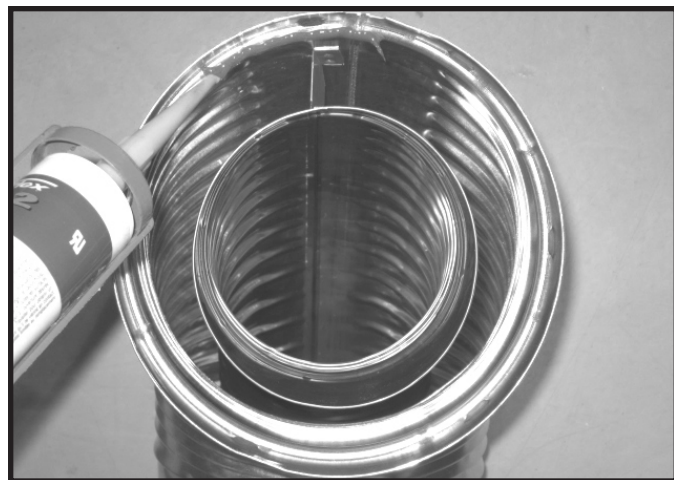

Figure 7.1 High Temperature Silicone Sealant
- Apply a bead of silicone sealant (300 °F minimum continuous exposure rating) inside the female outer pipe joint prior to joining sections. See Figure 7.1. **OR**